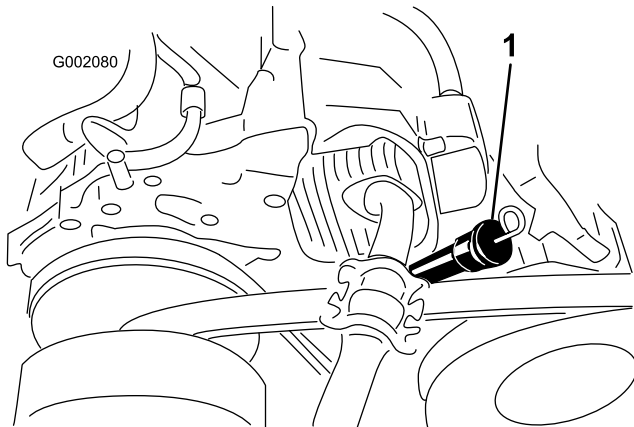

Figure 32
8. Clean around the oil dipstick and fill spout, and remove the dipstick (Figure 32).
9. Pour the specified oil into the into the filler spout until the oil level is up to the Full mark on the dipstick (Figure 32).
10. Insert the dip stick fully into the fill spout, remove the dipstick, and check the oil level (Figure 32).
11. Install the dipstick into the fill spout until the dipstick is firmly in place (Figure 32).